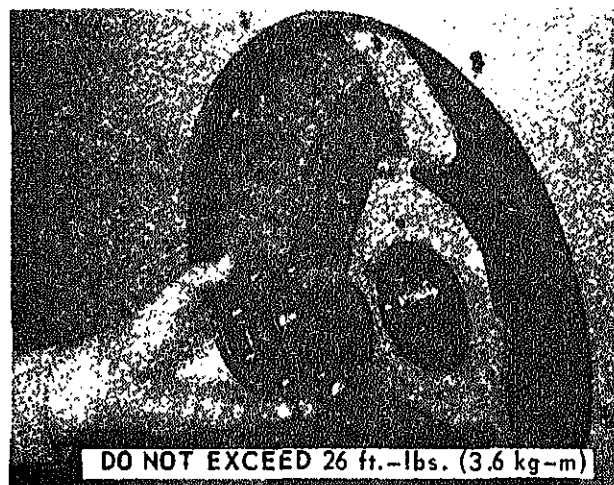

FIGURE 10-5.
g. Next install brake hub, rubber seal, washer and slotted nut (see figure 10-5). Tighten slotted nut to remove end play. Back off one (1) flat (.012 in. - .305 mm loose). **DO NOT EXCEED 26 FT.-LBS. TORQUE.** Secure with cotter pin